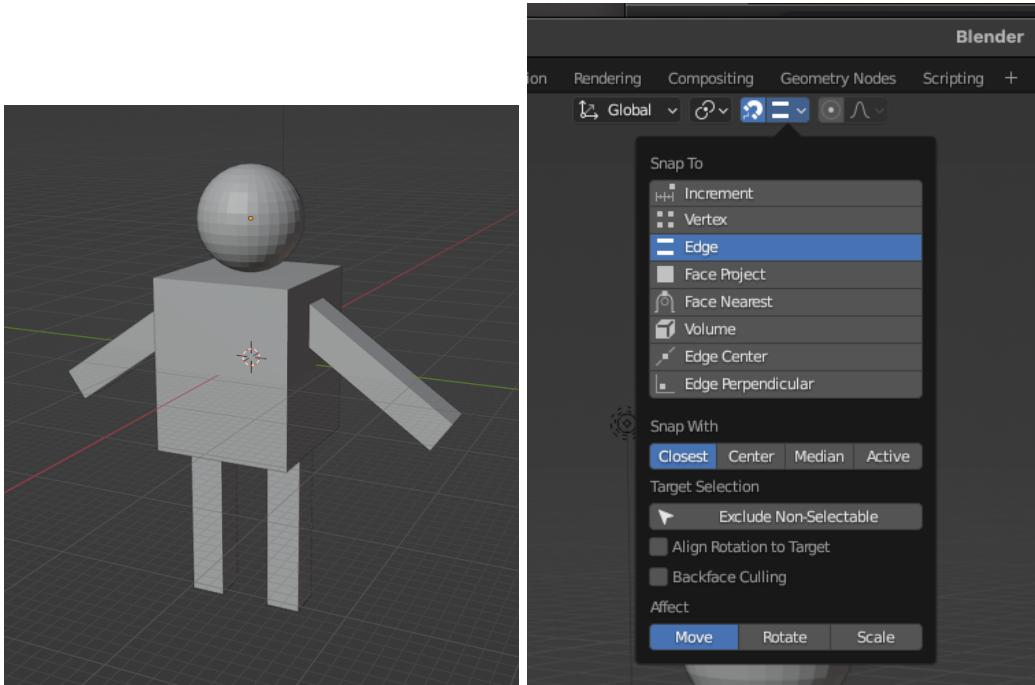

Figure 1.2: Left: Example robot object. Right: Snapping tool.
Create an object resembling a humanoid robot (see Fig.1.2):
8. Practice **Snap to** tool (see Fig.1.2).